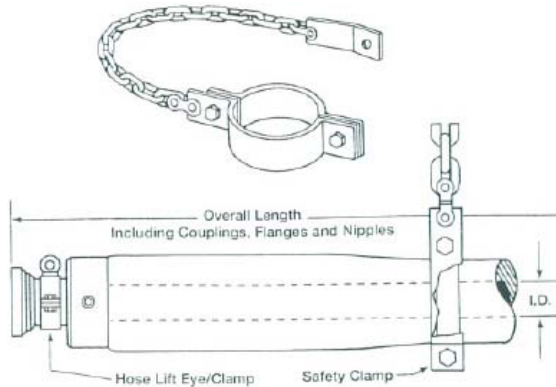

Figure 3
F. Safety Clamps (See Figure 3)
2. A set of safety clamps along with lift/eye clamps can be obtained on special order. The location for attaching these safety clamps is shown by marks at each end of the assembly. Lift eye/clamps are also available. Do not use the safety clamp or chain for lifting (See Figure 3)